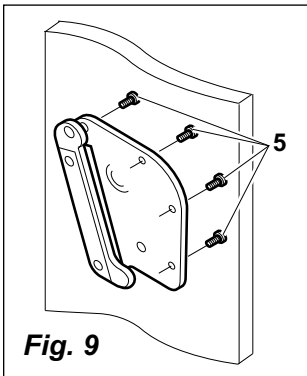

Fig. 9
- Screw the bearing plates onto the side walls from outside using 4 countersunk-head screws **5** M8 x 30 mm, see **Fig. 9**